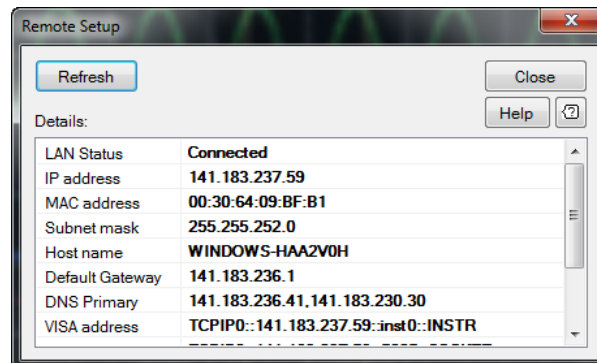

Figure 2-109 Remote Setup dialog
- 2 The Remote Setup dialog is displayed as shown in Figure 2-109. The remote setup parameters are listed in the Remote Setup dialog.